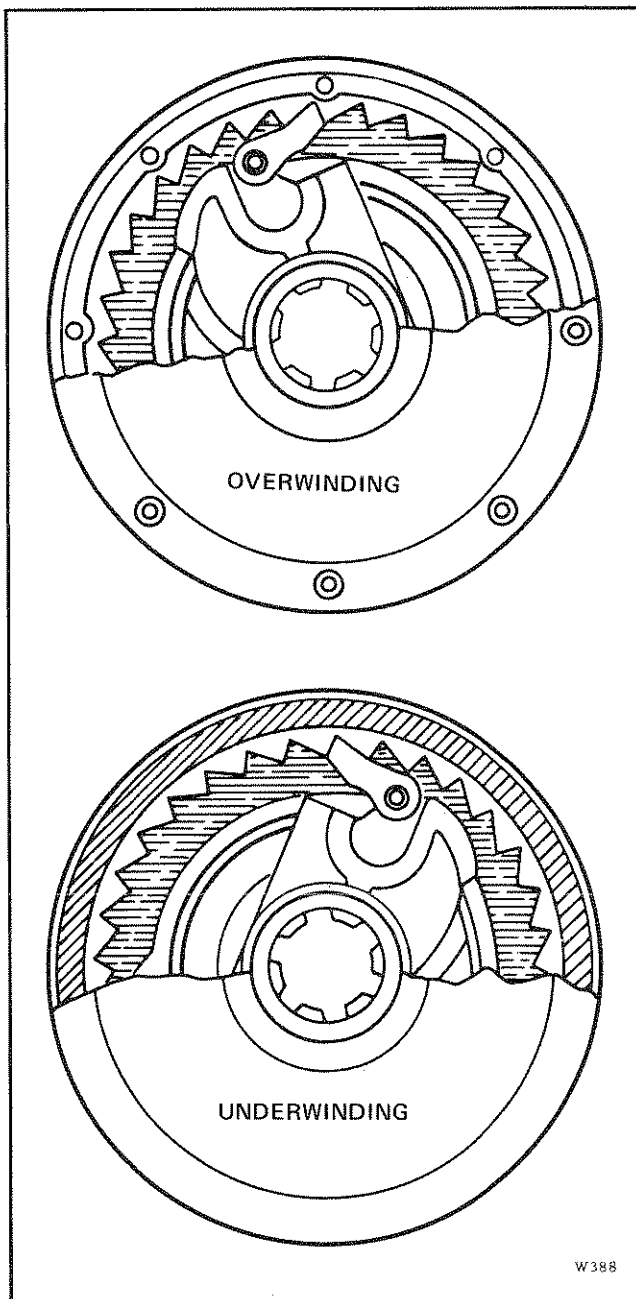

FIGURE 4-8. AUTOMATIC BRAKE OVERWIND AND UNDERWIND ARRANGEMENT
- Automatic Brake (Optional).** (See Figure 4-8.) Remove the automatic brake assembly and reinstall so that the word OVERWINDING is facing to the outside.
b. Automatic Brake (Optional). (See Figure 4-8.) Remove the automatic brake assembly and reinstall so that the word UNDERWINDING is facing to the outside.